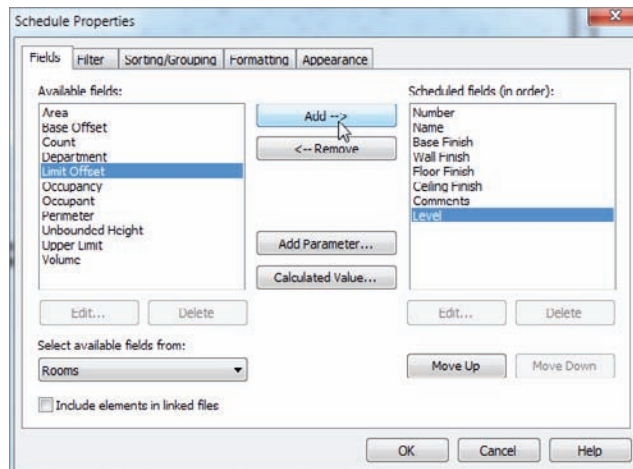

FIGURE 15.14 Adding fields to the schedule
4. In the Fields tab of the Schedule Properties dialog that opens, add the following fields in the specified order (see Figure 15.14):